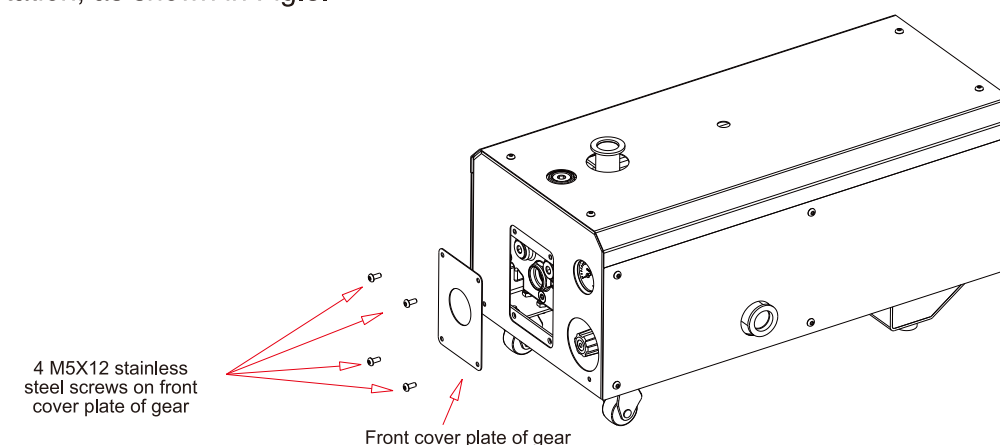
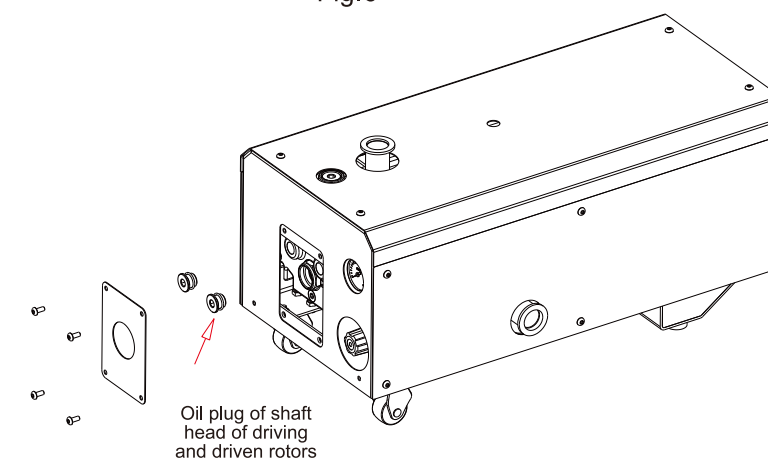
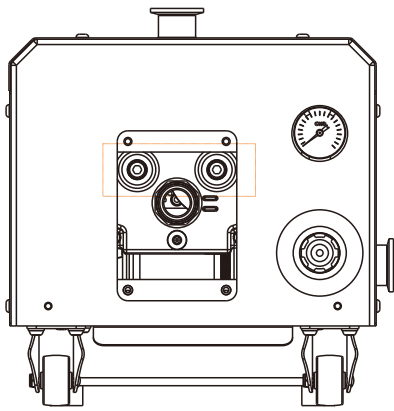

Fig.6
Fig.7
Fig.8
1. Remove 4 M5x12 stainless steel screws from the front cover plate of the gear, as shown in Fig.6.
3. Screw off the end face of the front cover of the gear with an 8mm 7-shaped wrench, and align the oil plug of shaft head of the driving and driven rotors, as shown in Fig.7.
4. Use a 5mm 7-shaped wrench to turn the driving rotor counterclockwise to experience the resistance during rotation, as shown in Fig.8.
Check whether the rotor is stuck according to the steps shown in Fig.6, Fig.7 and Fig.8.